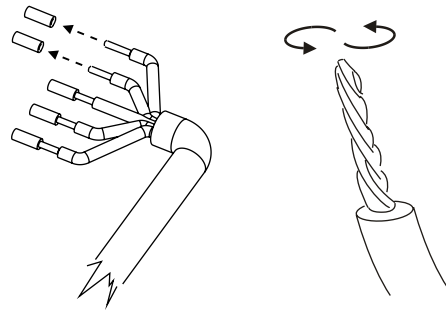

Figure 25-2
4. Pull off the individually pre-stripped insulation ends. Twist each end of the wires individually to keep all the wire strands together. [Figure 25-2]